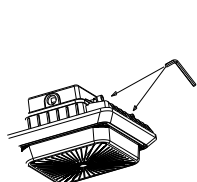

Figure 2-1
- 1.Disassemble the driver box cover by loosen the two screws on the driver box; Figure 2-1